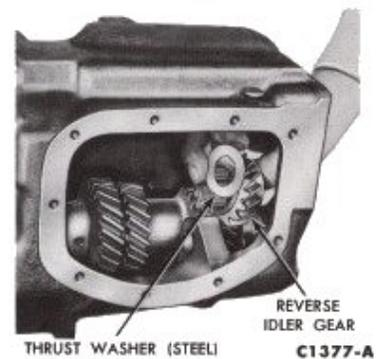

FIG. 11—Reverse Gear Front Idler Removal
9. Remove the reverse gear front idler and thrust washer from the case (Fig. 11).
15. Working through the output shaft opening, install the reverse gear front idler and thrust washer in the case as shown in Fig. 11.